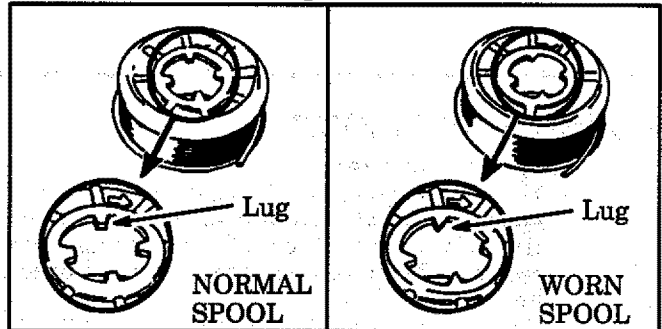

Figure 20
- Replace the spool when the square corners on the lugs are rounded off, reduced in size, or broken off. Figure 20.